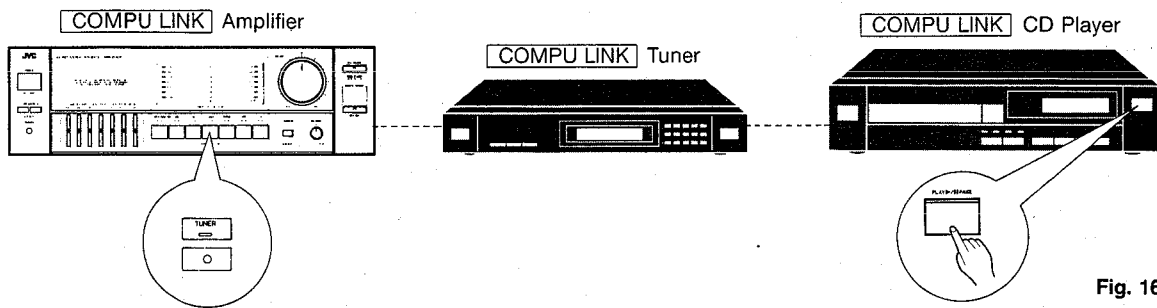

Fig. 16
2. Automatic Source Selection (Fig. 16)